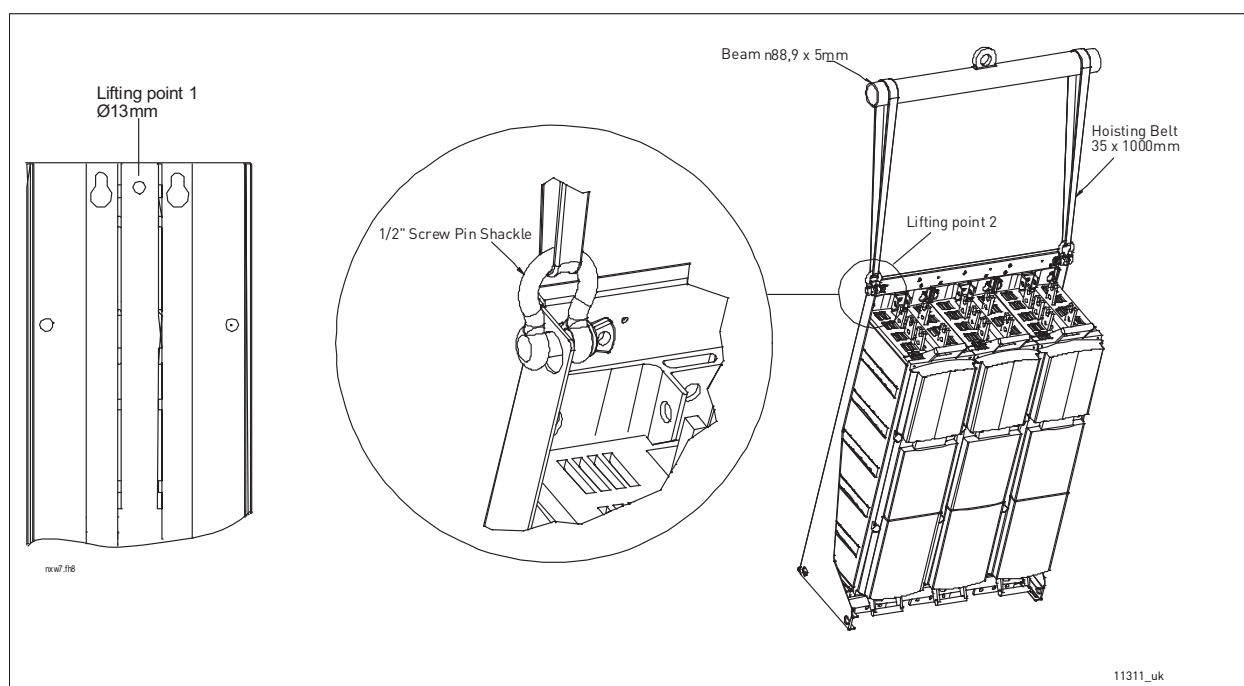
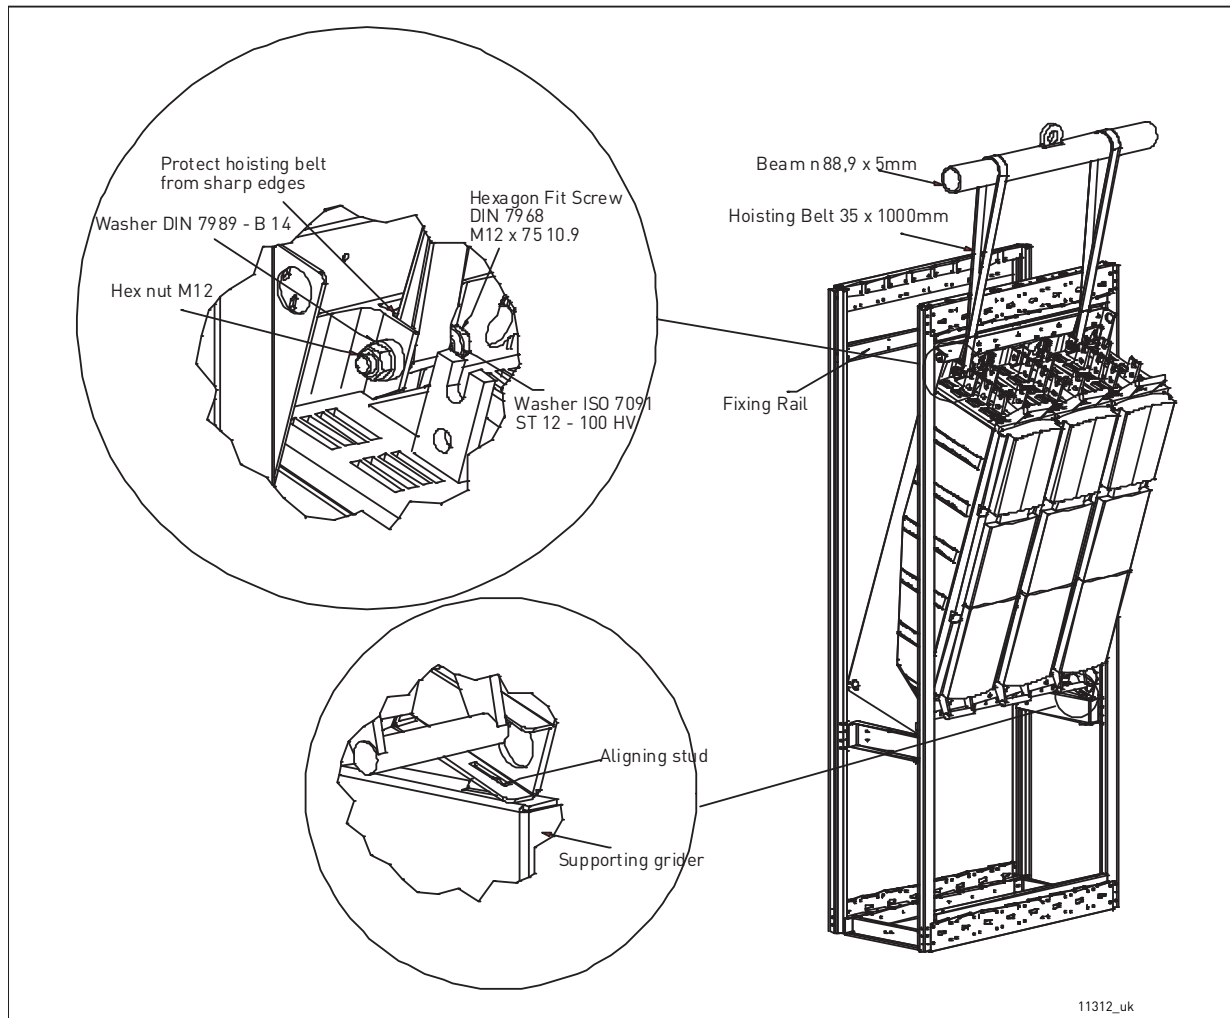
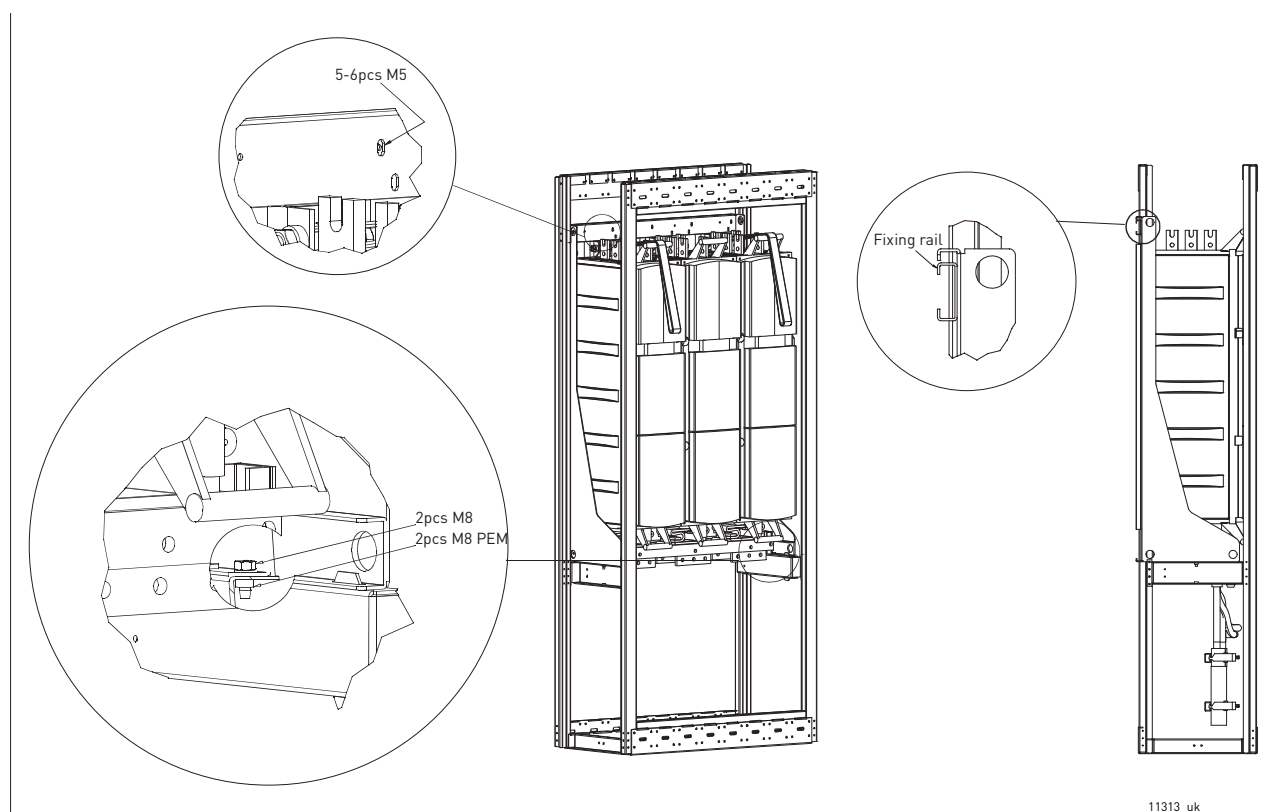

Figure 4. Lifting points for drives consisting of one module (left) and several modules
Figure 5. Lifting of drive into a narrow mounting space
Figure 6. Securing the drive to the cabinet frame
For units with no mounting bracket (see Chapter 5.1.2.1), the best place for hoisting is the hole(s) in the middle of the mounting plate (Lifting point 1). VACON® NX Liquid-cooled drives consisting of several modules can the most safely and easily be lifted by the holes in the mounting bracket (Lifting point 2) using a screw pin shackle. Pay also attention to the recommended dimensions of the hoisting belt and the beam. See Figure 4.
In such case, follow the lifting procedure described in Figure 5. The mounting becomes easier and safer if the drive can be laid on a supporting girder fixed on the cabinet frame. We also recommend to use an aligning stud to guarantee an easy and safe mounting.
To additionally stabilize the cabinet with the drive, we recommend to mount a fixing rail on the back of the cabinet, to which the top of the drive can be fastened with 5 or 6 M5 screws. The cut-out is compatible with Rittal or Veda cabinets. Also secure the drive with M8 nuts and studs to the supporting girder. See Figure 5 and Figure 6.
**NOTE!** Never lift a drive from the plastic handle or handles with an elevating device, such as jib crane or hoist. Recommended lifting procedure for these units are as described in Figure 4 and Figure 5.